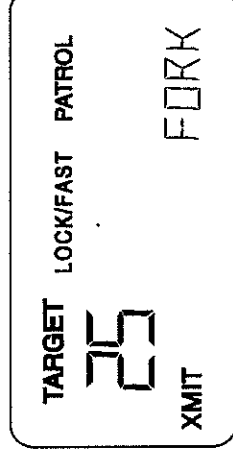

Fig. 44
To perform the tuning fork test: Turn the transmitter on with the trigger or remote control, then strike the 25 mph (40 kph) tuning fork against a hard nonmetallic surface, such as the heel of a shoe. ✘ Quickly hold the tuning fork approximately two (2) inches in front of the antenna, with the narrow edge of the fork facing the antenna. The target window should indicate 25 ± 1 mph (40 kph) (Fig. 44).